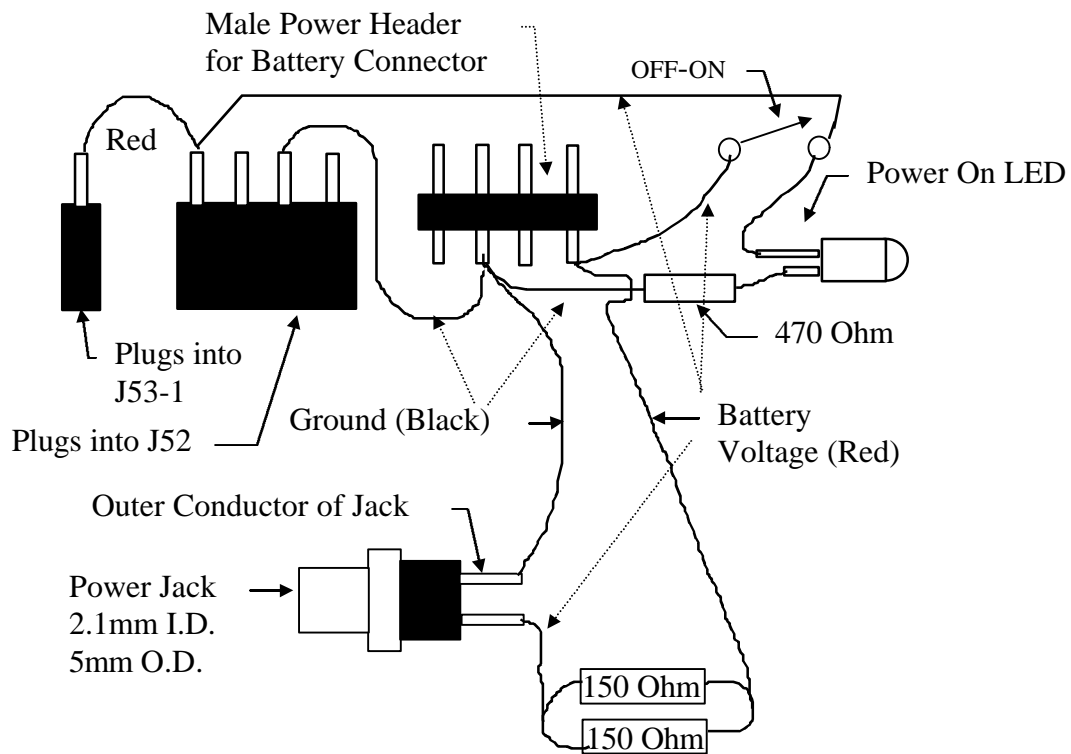
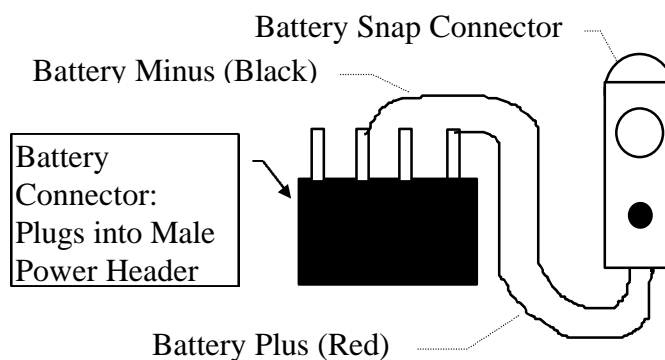

Figure 18 Power Off-On circuitry with male power header and recharge jack.
Figure 19 Battery pack snap connector cable.
4. Wire the LED, the 470 ohm resistor, the *On-Off* switch, the power jack, the male power header, snap connector, battery connector, and the constructed 1/2 watt, 75 ohm resistor according to the circuit in Figure 10 and depicted in Figure 18 and Figure 19. (Refer to Figure 7 for header connections). Suggested color: All lines that connect to battery plus, or connect to battery plus when the switch is closed, are Red. All ground connections are black.
3. Assuming the MSCC11E2 board has been tested, connect the battery power connector into the male power header which was wired to J52 through the *OFF-ON* switch (refer to Figure 18 ).